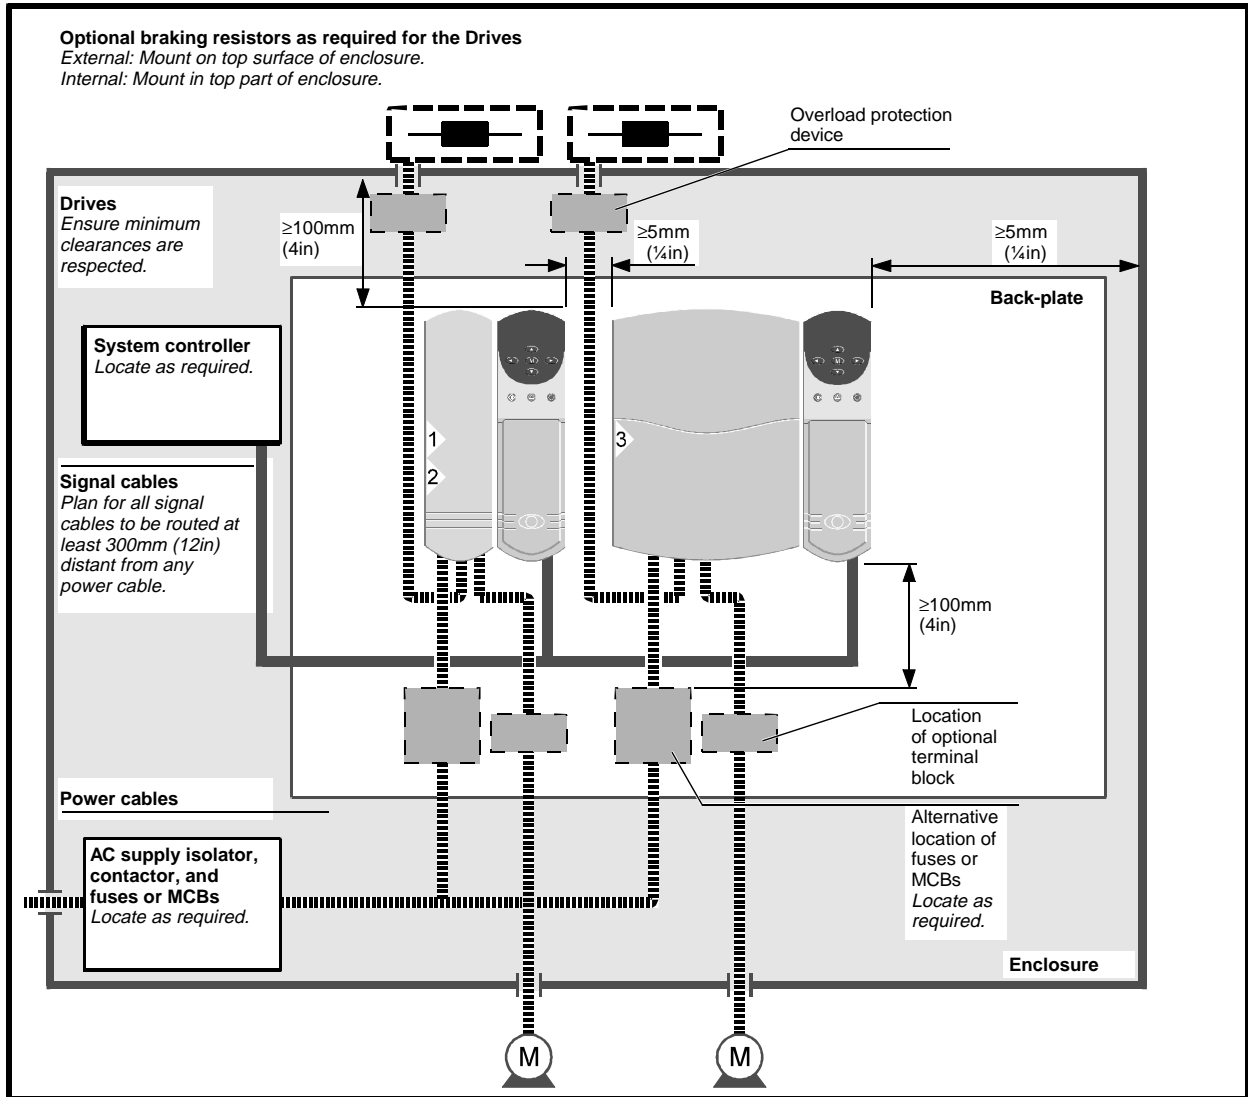

Figure 2–4 Recommended layout for routine EMC precautions (wiring recommendations are given in Figure 2–21)
STEP 14 When compliance with EMC emission standards is required, the RFI filter must be installed at the specified position for each Drive (see Figure 2–5).